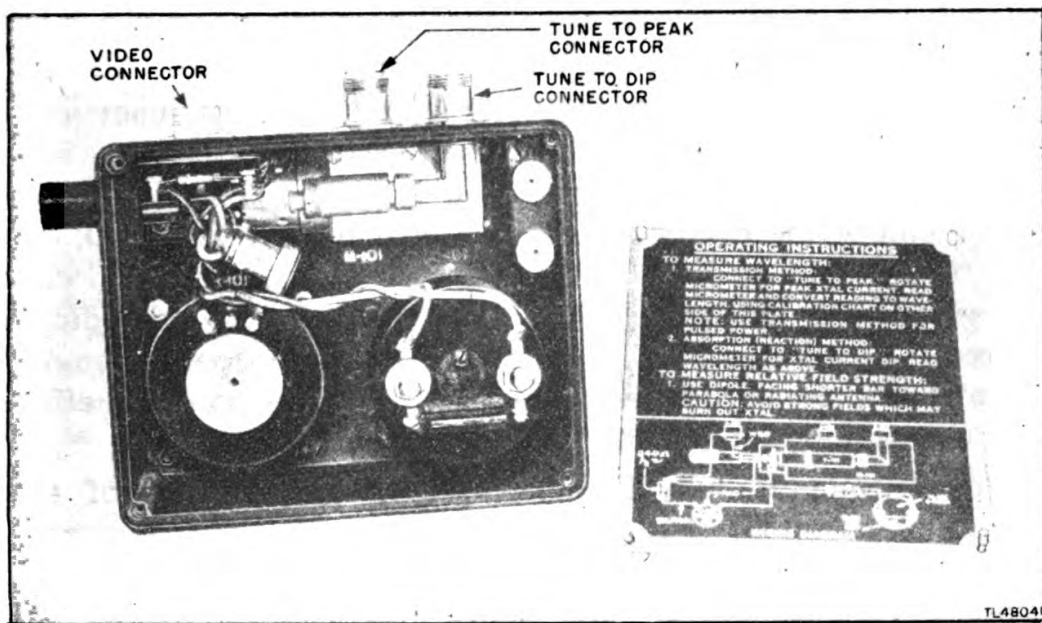

Figure 40. Wavemeter Test Set TS-117/GP, interior view (crystal holder open).
## **50. WAVEMETER TEST SET TS-117/GP (figs. 40 and 41).**
**f.** To replace a crystal, remove the wavemeter backplate, unscrew the knurled nut on the TUNE TO DIP plumbing, and remove the defective crystal and its holder (fig. 40). Install a new crystal and holder. If a supply of crystals is at hand, a new crystal can be placed in the removed holder. Install the crystal and holder and tighten the knurled nut into place. Replace the wavemeter backplate.